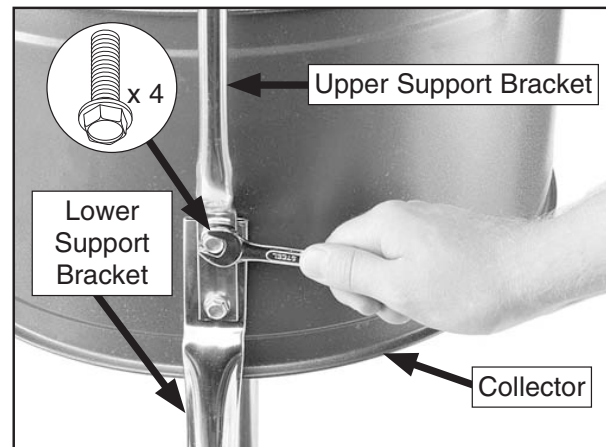

Figure 30. Mounting collector to brackets.
5. Secure the front lower support bracket to the collector with (2) $\frac{5}{16}$ "-18 x $\frac{1}{2}$ " flange bolts.
6. Place the upper support bracket over the rear lower support bracket, and secure them to the collector with (2) $\frac{5}{16}$ "-18 x $\frac{1}{2}$ " flange bolts, as shown in **Figure 30**.